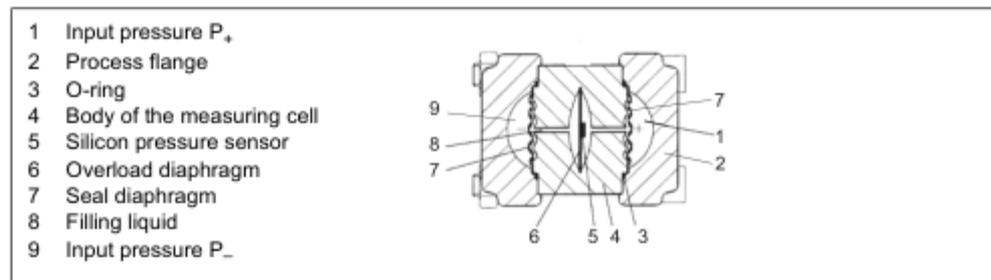

Figure 7 Measuring cell for differential pressure and flow, functional diagram
The differential pressure is transmitted via the seal diaphragms (7, Figure 7, pg. 19) and the filling liquid to the silicon pressure sensor (5). On exceeding the measuring limits, the overload diaphragm (6) flexes until one of the seal diaphragms (7) comes into contact with the body of the measuring cell (4) and protects the silicon pressure sensor (5) against overloading. The seal diaphragm is deflected by the resulting differential pressure. Four piezo-resistors in bridge circuit doped in the measuring diaphragm change their resistance as a result. The change in resistance causes a bridge output voltage proportional to the differential pressure.